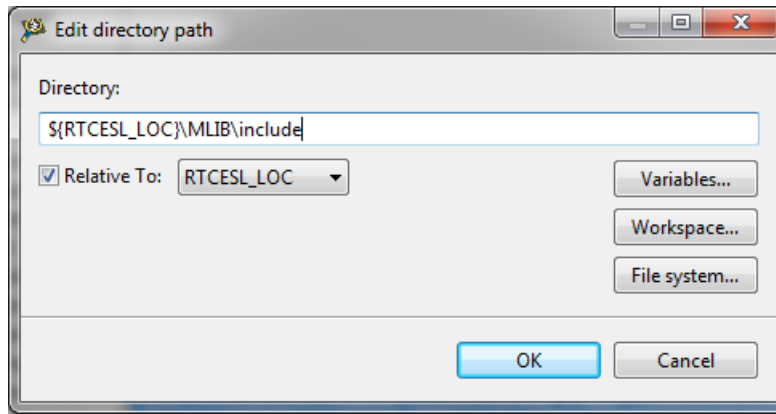

Figure 1-12. Library include path addition
14. Tick the box Relative To, and select RTCESL_LOC next to the box. See Figure 1-12. Click OK.